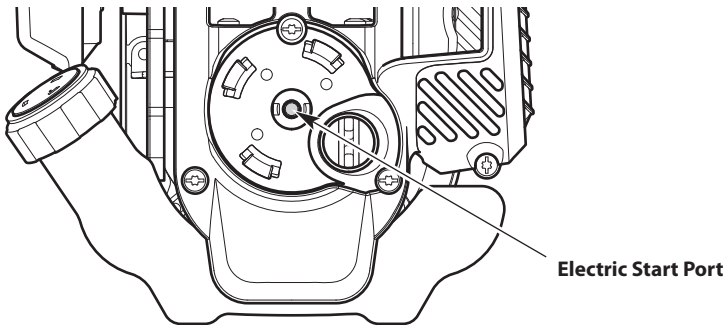

Fig. 16
Some units can be started with an optional electric start accessory (items sold separately). Electric-start-capable units are labeled as such and include an electric start port (Fig. 16).
3. Insert the electric start accessory into the electric start port (Fig. 16).